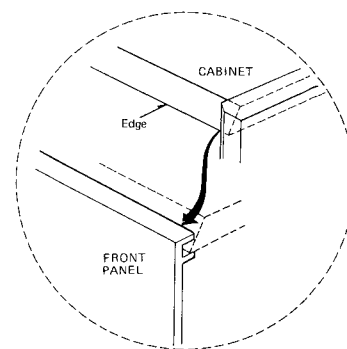

Fig. 5
3. When installing the front panel, insert the cabinet edge into groove of front panel as shown in fig. 5.